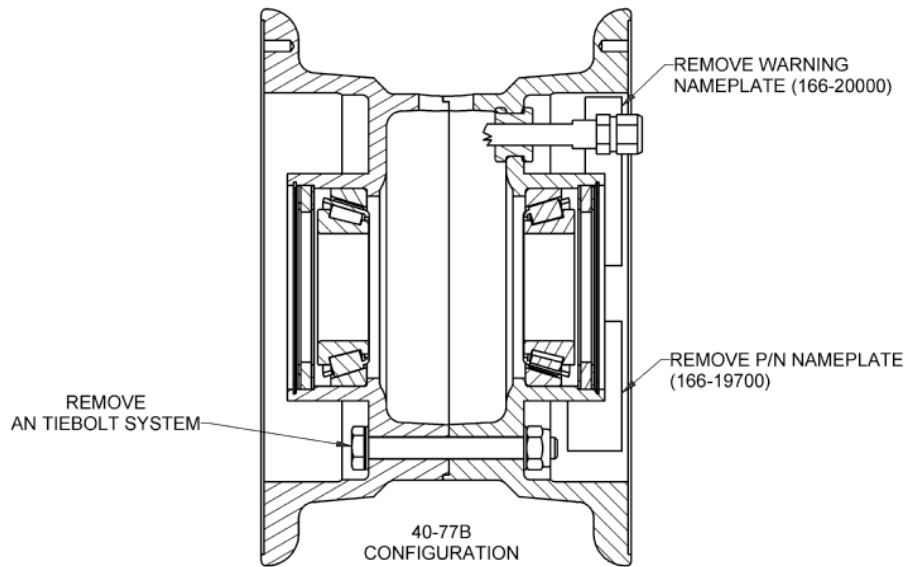

Figure 2
- 3) Disassemble wheel, remove and discard the wheel tie bolt hardware and nameplates listed in Table 2, below and as shown in Figure 2.